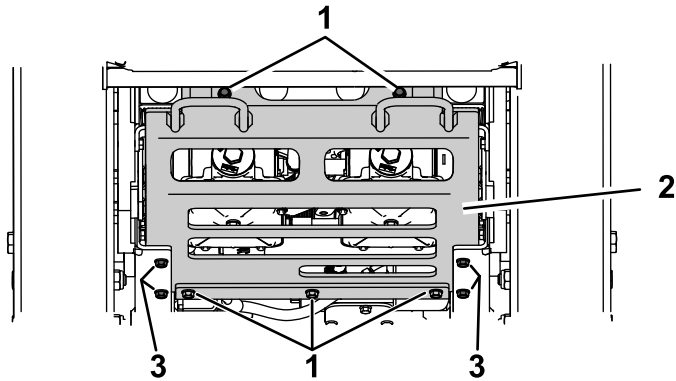

Figure 51
4. Remove the 9 bolts (5 rear, 4 side) from the skid plate and remove the skid plate (Figure 51).
15. Install the skid plate (Figure 51).